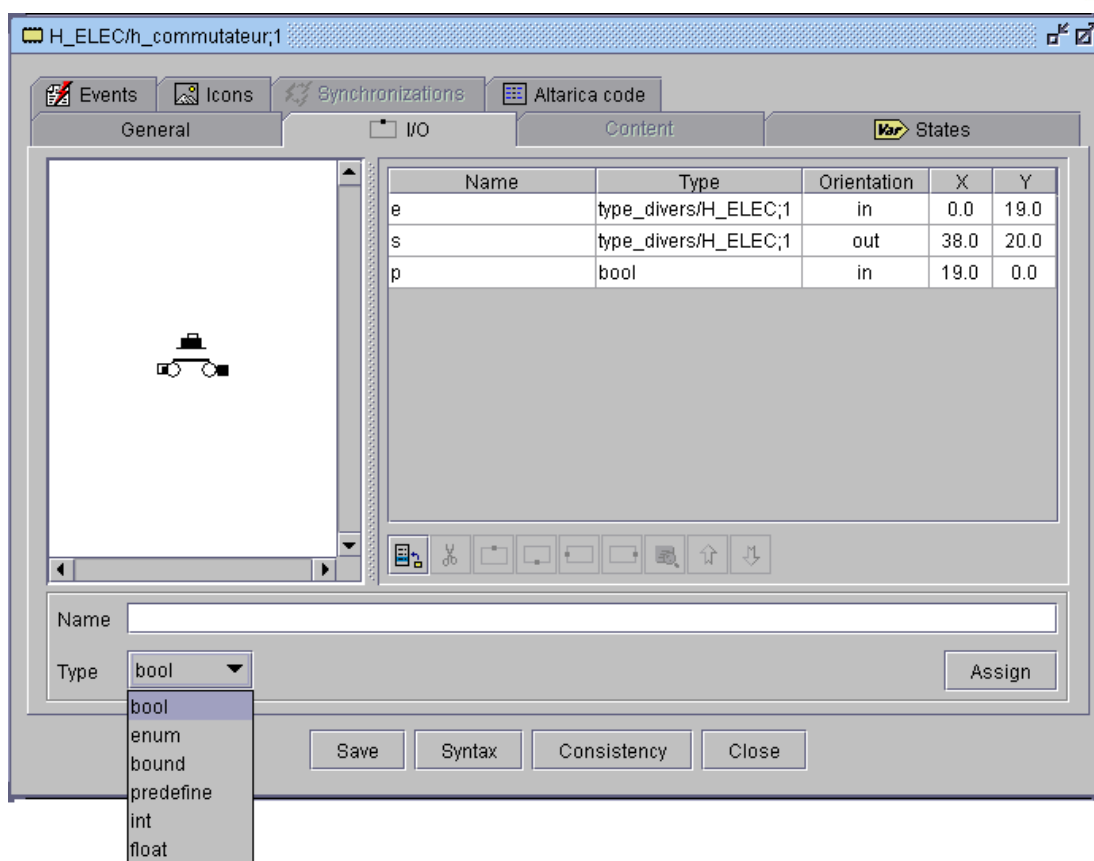

Figure 47 : I/O tab - Boolean variable
The **I/O** tab (Figure 47) allows configuration of a component input/output flow variables.
- * **bool:** **boolean** variable (Figure 47), containing the constants **true** and **false**